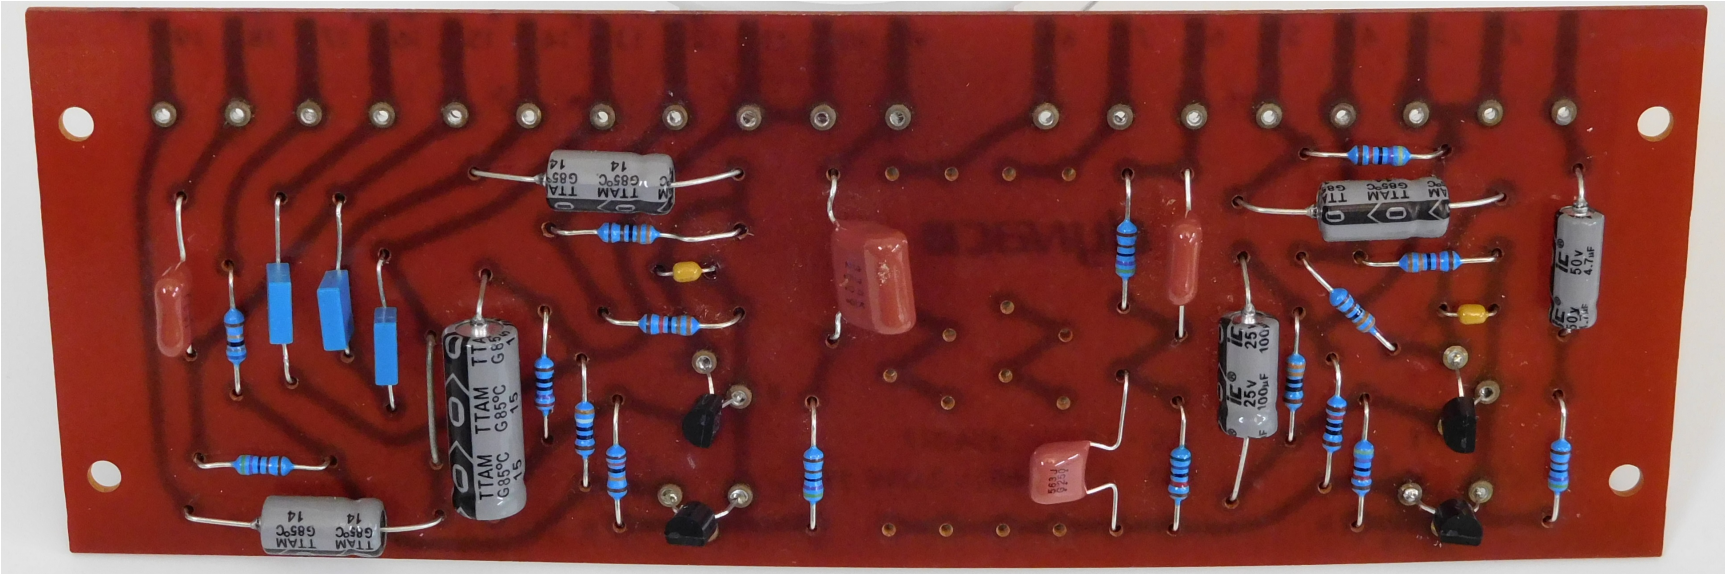

Figure 4-Stock PCB (after upgrade)
2. For all these capacitors, it has become virtually impossible to find axial versions of these capacitors, and so radial capacitors have been substituted. Use **Figure 4** as a guide to the way that the leads should be formed to fit well into the original circuit boards.
Install the following transistors. Be careful not to get too much heat on the transistors. Refer to Figure 4 to see the correct orientation of the transistors.